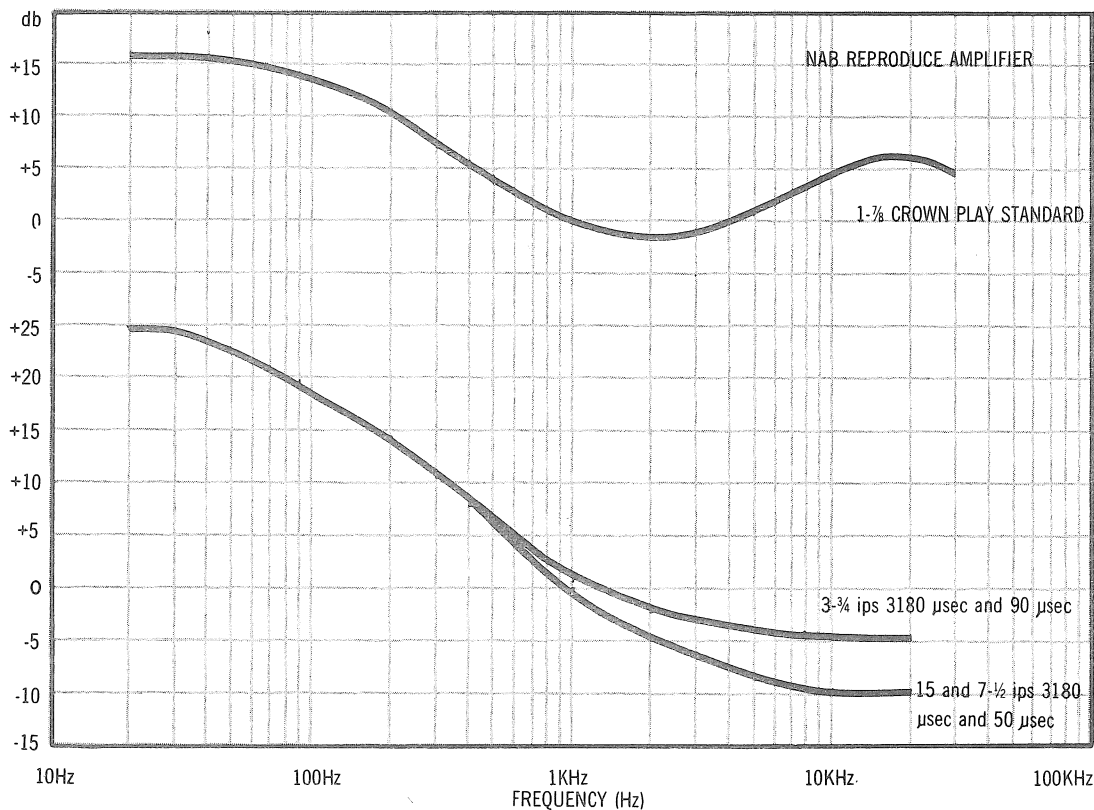

FIG. 9 REPRODUCE EQUALIZATION CURVES
Using standard alignment tapes for the appropriate speeds, set 10KHz for flat playback using appropriate controls (R801, 2 or 3 on CX-8D or CX-8E). Since there are no standard response curves for 1-7/8, satisfactory alignment can be achieved by disconnecting the playback head and feeding a -50db signal directly into the electronics, and adjusting for a response according to the curves below. (See fig. 9).
2. Defective playamp. This may be checked by feeding a -50db signal into the playhead input and comparing output to standard play curves. Also check signal for distortion. (See fig. 9)